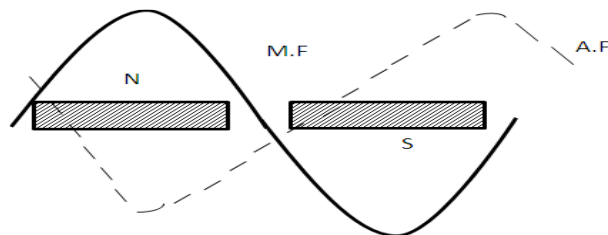

**Fig 2.4 Zero p.f leading**
- At zero p.f leading, the armature flux is in phase with the main flux as shown in Fig 2.4.